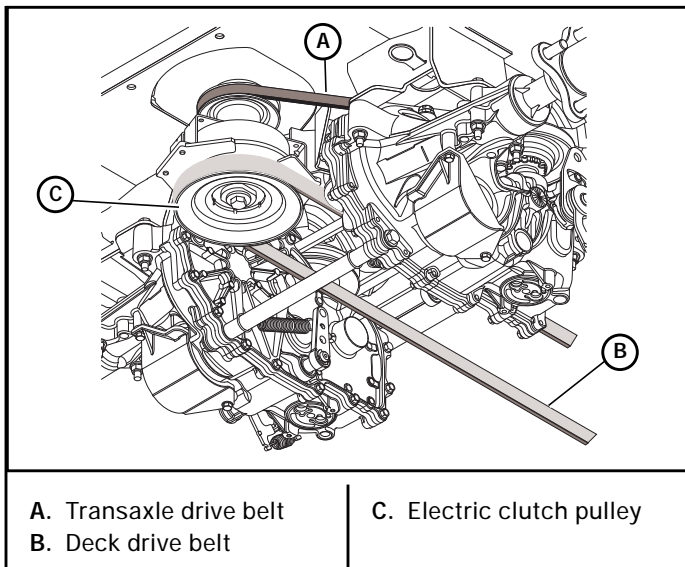

Figure 4-14
6. Remove the deck drive belt from the electric clutch pulley located on the engine shaft. Figure 4-14
12. Reroute the deck drive belt around the electric clutch pulley. Make certain the belt is routed properly around the spindle pulleys and stationary idler pulley(s). Figure 4-14